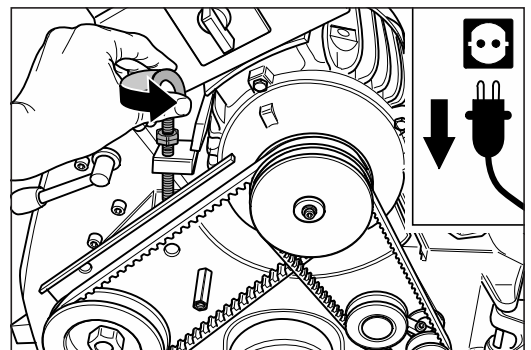

Fig. 30 Release the V-belt tension by loosening the tensioning bolt at the motor.
- 6 Release the tension of the V-belts by turning the tensioning bolt at the motor counterclockwise (fig. 30).